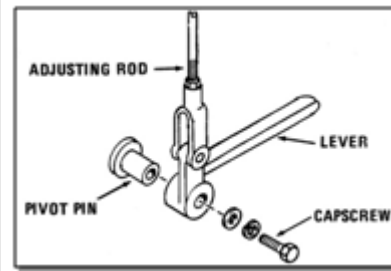

Figure 13 Ejector Control
2. Remove plugs covering the relief valve B and relief valve C on the ejector unload valve. See Figure 13 B and C Valves.